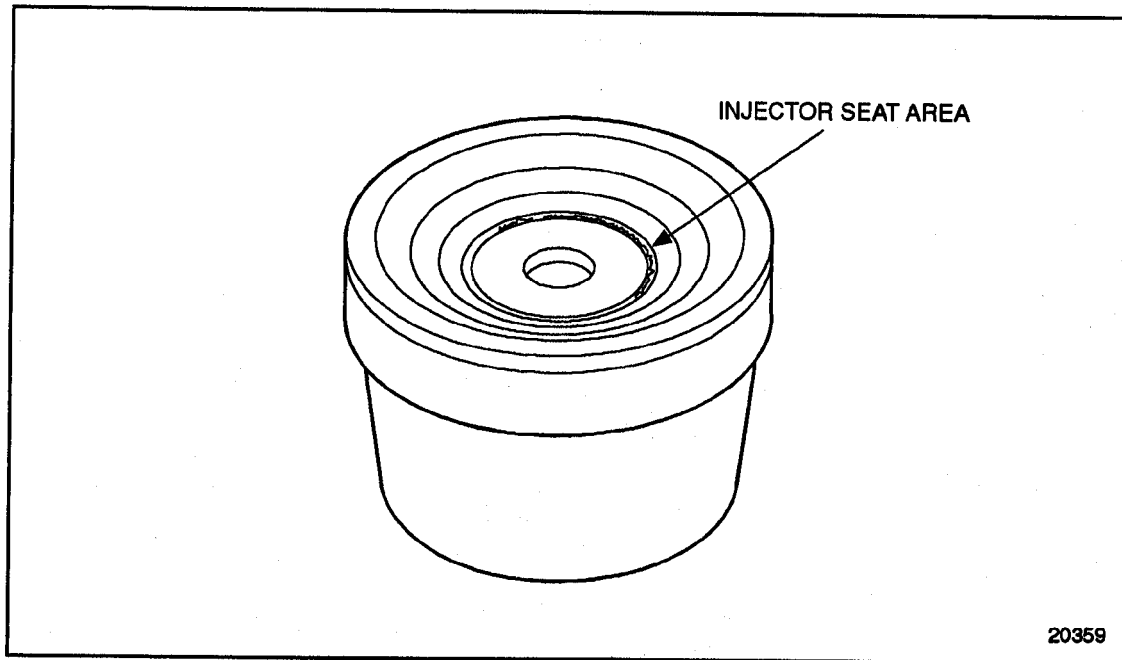

Figure 2-23 **Injector Tube Seat Irregularities**
19. Inspect the tube seating surface to ensure that there are no irregularities or chatter marks in the seating surface. If irregularities or chatter marks are found, remove and replace the injector tube. See Figure 2-23.